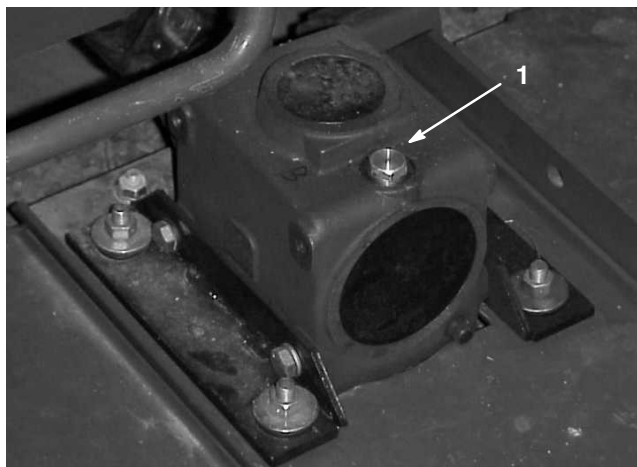

Figure 17
2. Remove the dipstick/fill plug from the top of the gear box (Fig. 17) and make sure that the lubricant is between the marks on the dipstick. If the lubricant level is low, add enough lubricant until the level is between the marks.